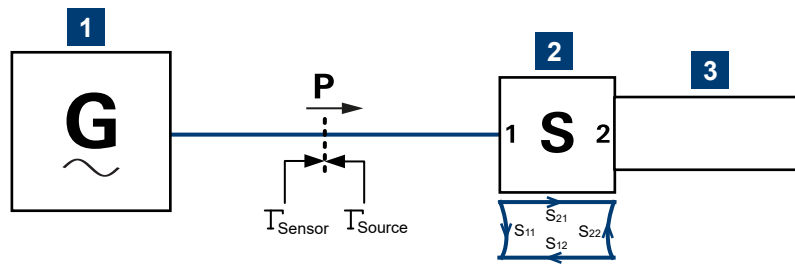

Figure 9-3: Correction of interactions between signal source, S-parameter device and sensor
The interaction between the complex reflection coefficient Γ_{sensor} of the sensor and the reflection of port 2 is expressed by s_{22} , see Figure 9-3. If the S-parameter correction is enabled, this interaction is always considered, regardless whether gamma correction is performed or not.
- S-parameter device if the S-parameter correction is enabled, S11 in Figure 9-3.